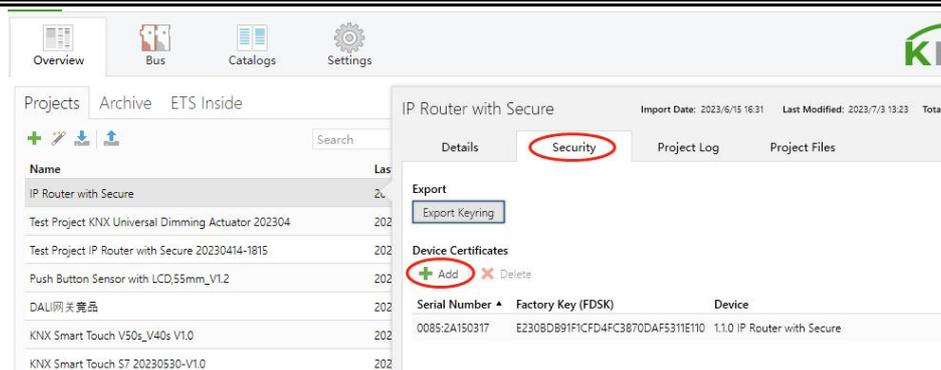

Fig. 5.5.2 Add Device Certificate in overview
- ❖ Alternatively, the certificates of all Secure devices can be entered in the ETS beforehand. This is done on the “Security” tab on the project overview page, as shown in Figure 5.5.2 below.